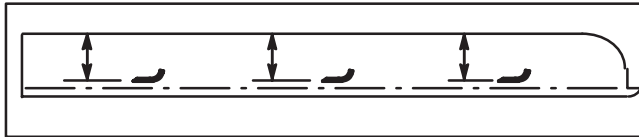

Figure 28
CHECKING FOR BENT BLADE (Fig. 28)
2. Rotate blade until the ends face forward and backward. Measure from inside of cutting unit to cutting edge at front of blade (Fig. 28), and remember this dimension.